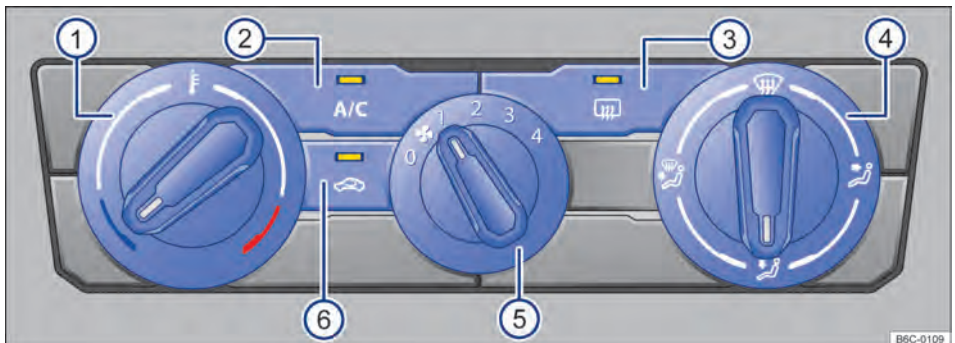

Fig. 83 Air conditioning controls.
- *Air conditioner*: rotate the blower regulator to level 0 → Fig. 83 ⑤.
- *Air Conditioner*: press the button  → Fig. 83 ② to turn the cooling operation on and off.
- *Air-conditioning*: rotate the left rotary regulator → Fig. 83 ①.
- *Air-conditioning*: rotate the blower regulator → Fig. 83 ⑤.
- *Air Conditioner*: press the  button → Fig. 83 ⑥.
- *Air-conditioning*: rotate the right regulator → Fig. 83 ④ to the desired position.
- *Air conditioning*: rotate the right rotary regulator to  → Fig. 83 ④.
- *Air Conditioner*: press the button  → Fig. 83 .